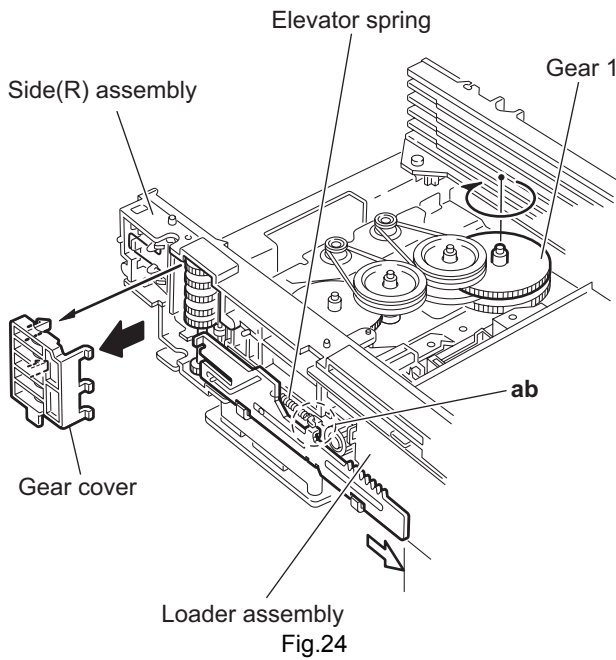

Fig.24
- From the right side of the DVD changer mechanism assembly, remove the elevator spring attached to the hook **ab** of the loader assembly. (See Figs.24 and 25.)